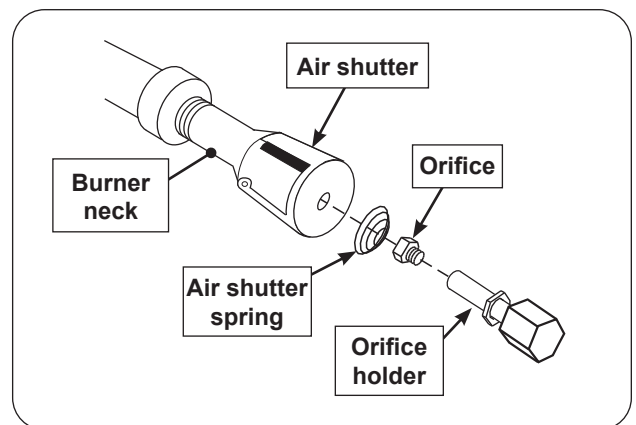

Fig. 47-3 Burner removal diagram
4. To re-install, position the air shutter spring and air shutter over the orifice holder fitting, between the burner and the heat shield, in the order and position shown in Fig. 47-3. Do for both burner necks.